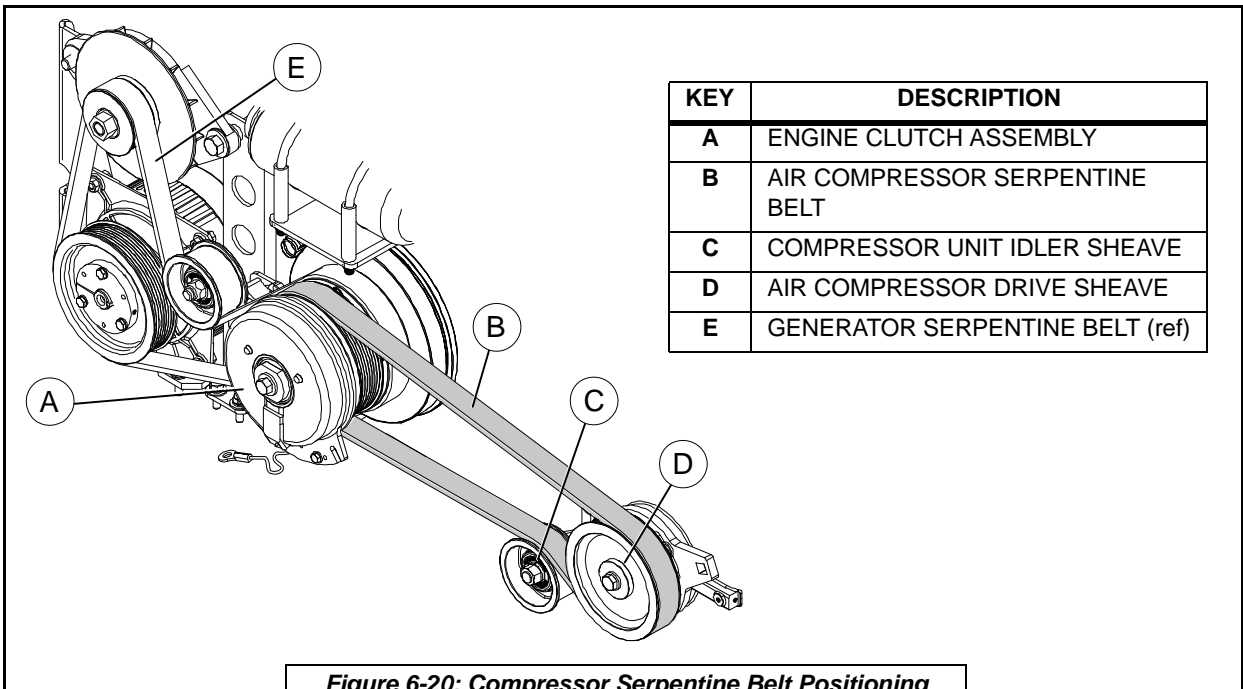

Figure 6-20: Compressor Serpentine Belt Positioning
4. Position and route the new air compressor serpentine belt as shown in *Figure 6-20*, making sure that it goes on the outside of the double sheave track on the engine clutch assembly.